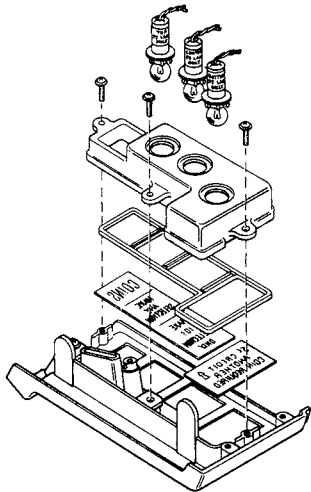

Figure 5.
2. In the 2-credit position, the middle credit window lights up to indicate "10¢ Credit—Another Coin Required". This upper credit window, Part No. 408404 is available from your Seeburg Distributor and is installed as shown in Figure 5.